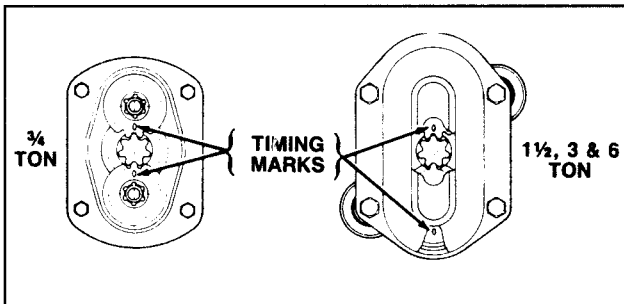

Figure 7. Gear Timing Marks
- Gearing: When assembling the gears, they must be orientated with the timing marks aligned as shown in Figure 7.